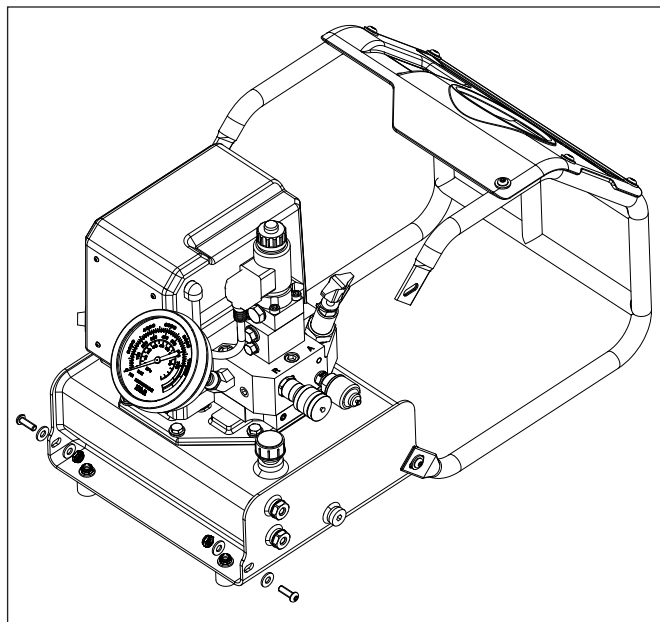

Figure 7: Cleaning Reservoir
3. Remove 2 screws, washers and nuts that mount the roll cage to the reservoir. Loosen the other 2 sets of mounting screw. Pivot the roll cage as shown. See Figure 7